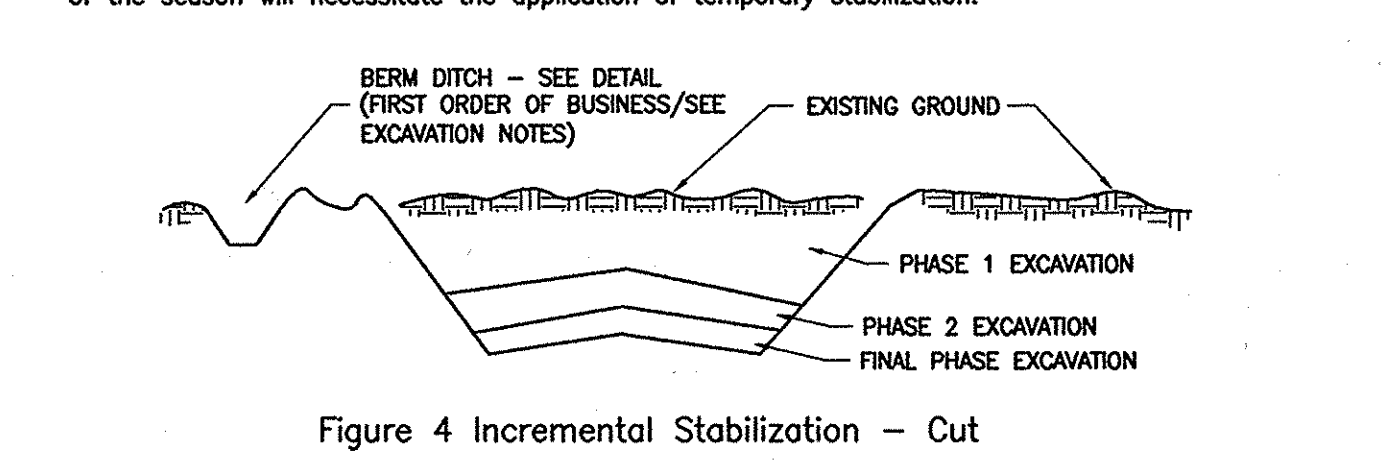

Figure 4 Incremental Stabilization - Cut
- Construction sequence (refer to Figure 4 below):